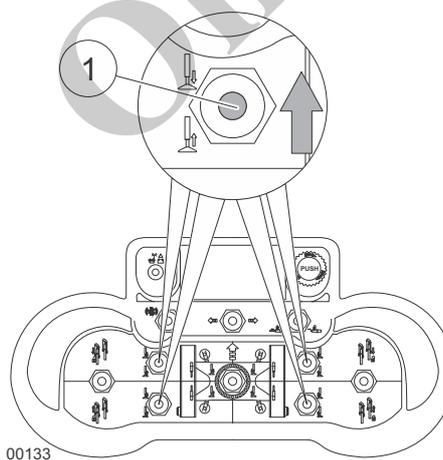

Fig. 146 Extending the outrigger cylinders using the remote radio control
- 6 Push the lever (1) in Fig. 146 on the remote radio control upward until the outrigger cylinders are extended into the outrigger pads.